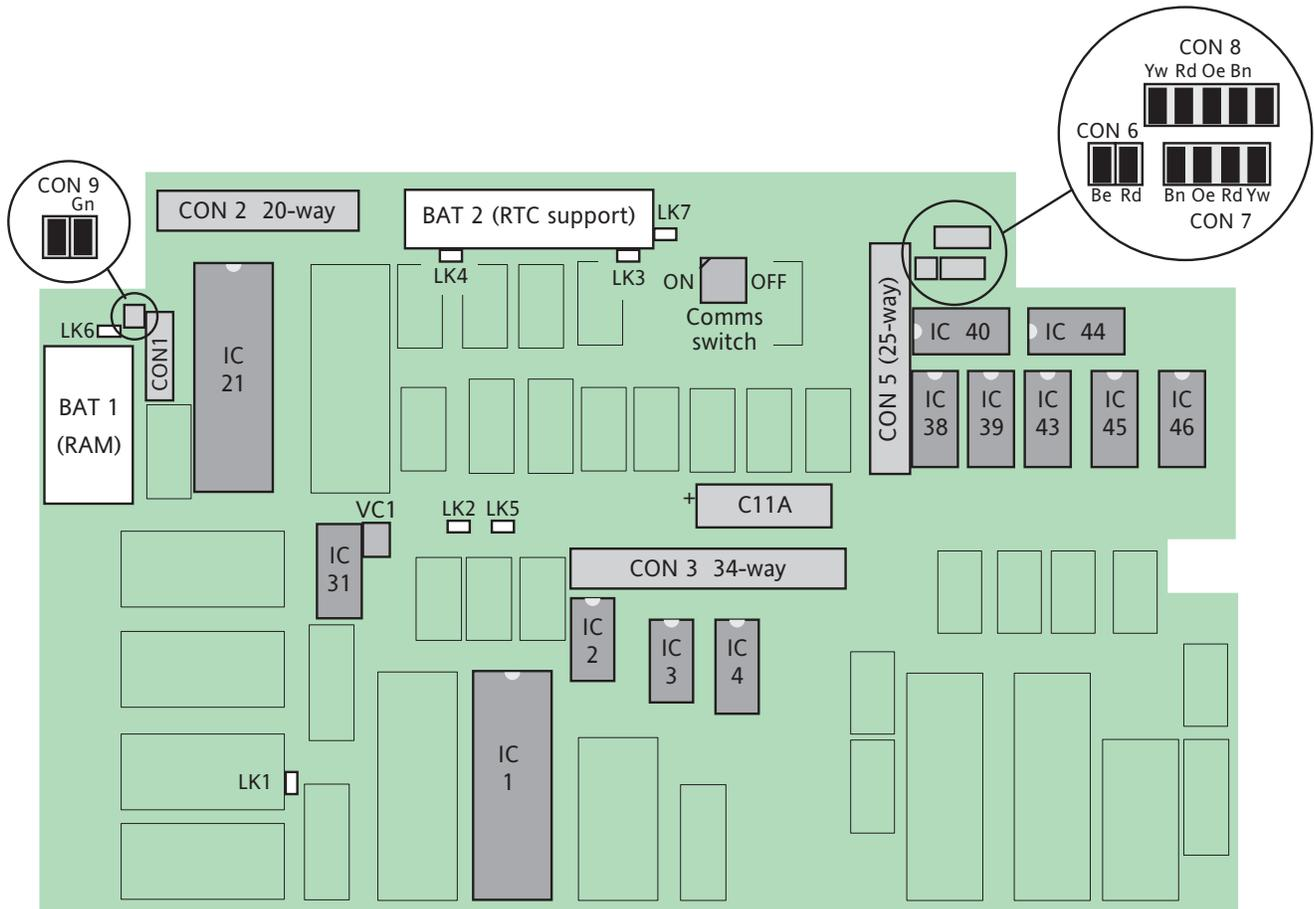

Figure 3.8a Control board connector and link positions (Mark I control board)
3. Check that all links and connectors on the control board are secure, and that both batteries are correctly fitted (figures 3.8a and 3.8b).
4. If the serial communications options is fitted, check that the correct software version EPROMS are in place (refer to the Channel Print 2 Page description in the Installation and Operation manual) and that the communications switch (figure 3.8a/b) is set to 'ON'.